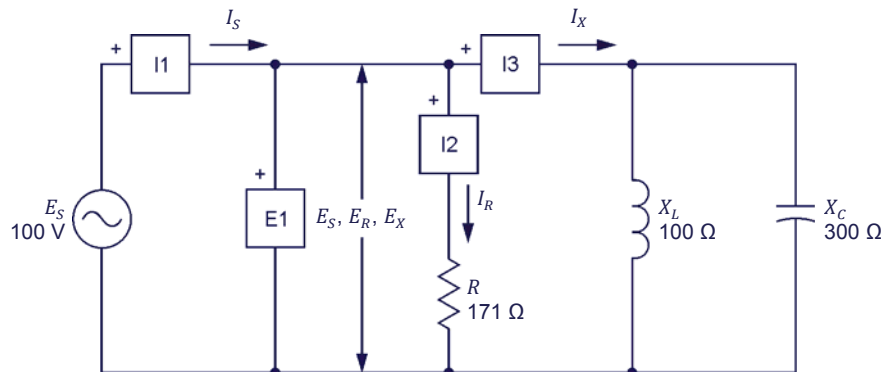

Figure 3-15. Parallel ac circuit containing a resistor, an inductor, and a capacitor, and set up for power measurements.
18. Set up the circuit shown in Figure 3-15.
Power triangle of the circuit in Figure 3-15.